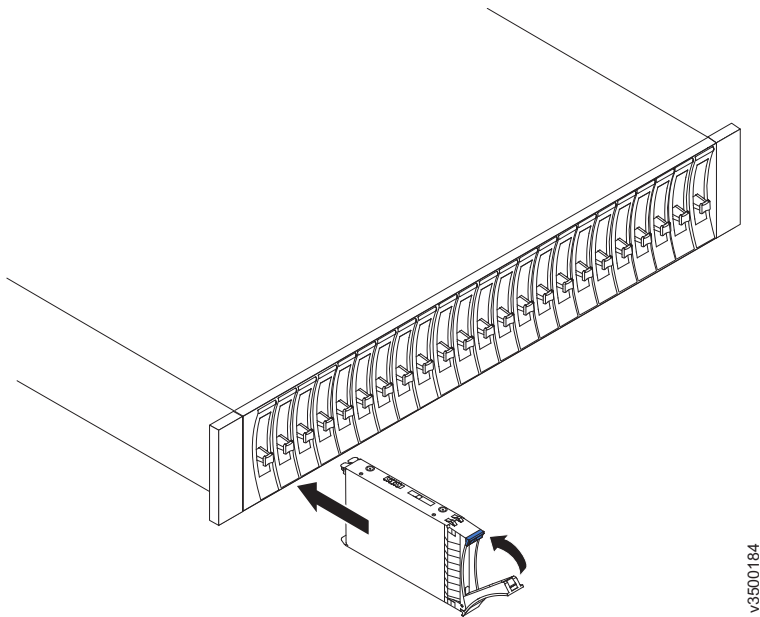

Figure 65. Installing and locking a 2.5-inch drive into its slot
13. Align the drive assembly with the guide rails in the bay (see Figure 65 on page 210).